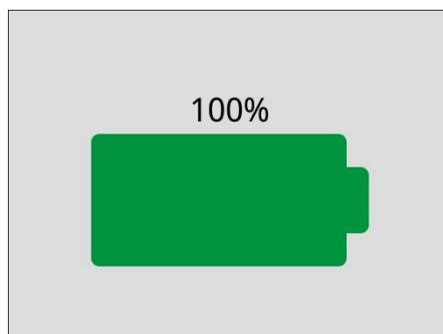

Figure 14.30 Docking and undocking confirmation
After docking, the MIRI® M Chamber automatically powers on and displays a battery percentage (see Fig. 14.30).
6. Successful docking is confirmed by brief visual feedback on the display (see Figure 14.30) and the back panel LEDs lighting up depending on the state of the chamber: